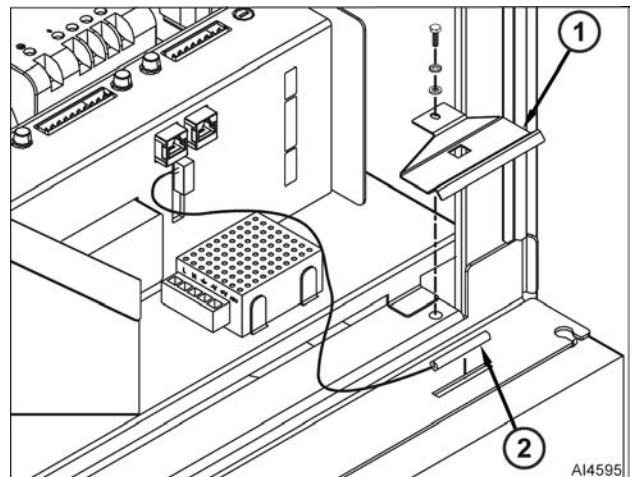

Fig. 45
3. Remove screw, washers, clamp (1, Fig. 45) and door sensor (2, Fig. 45) from oven frame.